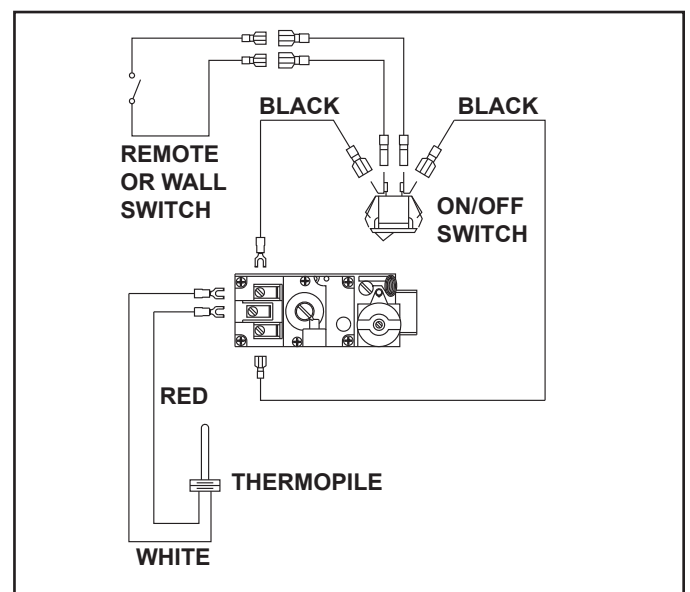
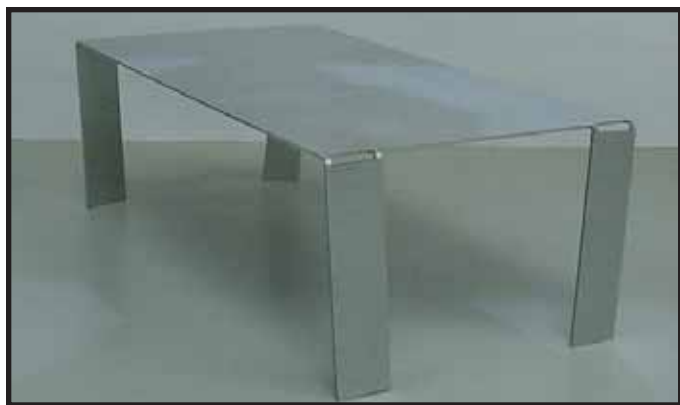

Figure 3. Standing Pilot Wiring Diagram
Figure 4. Protective Heat Shield
- If the receiver must be placed in the combustion chamber, the protective heat shield **MUST** be used. See Figure 4.
Before lighting this appliance determine if it has a Standing Pilot or IntelliFire ignition system by viewing the wiring system and gas valve. If this appliance has a red or black ignitor button (see Figure 3 and Figure 4) this appliance has a Standing Pilot ignition system. If there is no red or black ignitor button, this appliance has an IntelliFire ignition system.